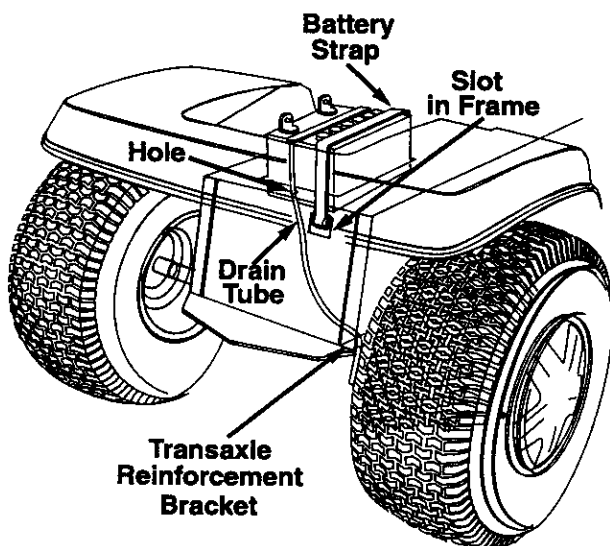

Figure 11
6. Secure battery by hooking battery strap into slot in rear frame, under the fender. See Figure 11.
7. Insert the drain tube down through the hole in the battery compartment and the hole in the transaxle reinforcement bracket located on the right side of the unit. See Figure 11. Be certain drain tube is routed away from the wheel rim.